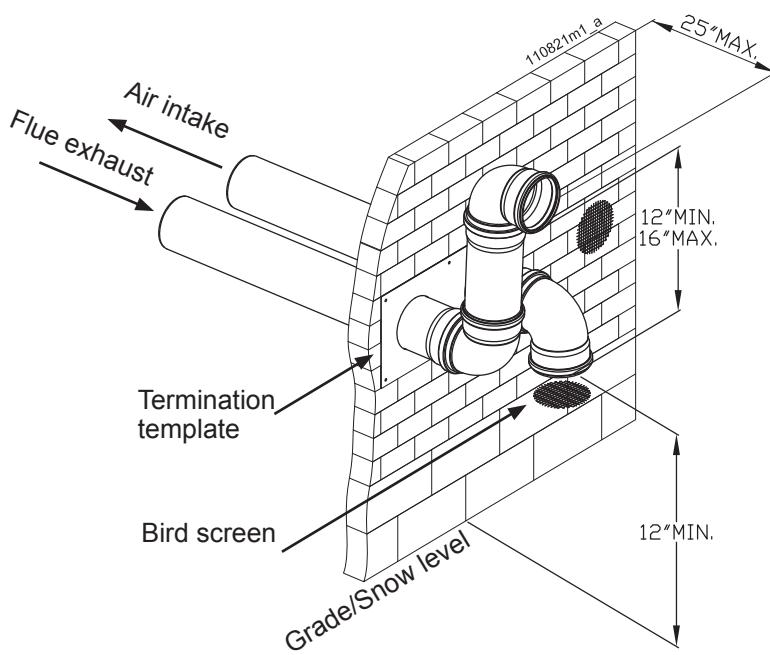

Figure 12-15 Two pipes sidewall termination of air and vent
3. The vent piping must terminate in an elbow pointed outward as shown in Figures 12-15 or 12-16 or in a roof as shown in Figure 12-22.
Do not exceed the maximum lengths of the outside vent piping shown in Figures 12-15, 12-16 or 12-22. Excessive length exposed to the outside could cause freezing of condensate in the vent pipe, resulting in potential heater shutdown.
3. The air piping must terminate in a down-turned elbow as shown in Figures 12-15 and 12-16. This arrangement avoids recirculation of flue products into the combustion air stream.
4. The vent piping must terminate in an elbow pointed outward or away from the air inlet, as shown in Figures 12-15 and 12-16.
WARNING!!! Do not exceed the maximum lengths of the outside vent piping shown in Figures 12-15 and 12-16. Excessive length exposed to the outside could cause freezing of condensate in the vent pipe, resulting in potential heater shutdown.
5. Maintain clearances as shown in Figures 12-15 and 12-16. Also maintain the following:
1. The air termination coupling must be oriented at least 12 inches above grade or snow line as shown in Figures 12-15 and 12-16.
2. Maintain the required dimensions of the finished termination piping as shown in Figures 12-15 and 12-16.
3. Do not extend exposed vent pipe outside of the building more than what is shown in Figures 12-15 and 12-16. Condensate could freeze and block vent pipe.